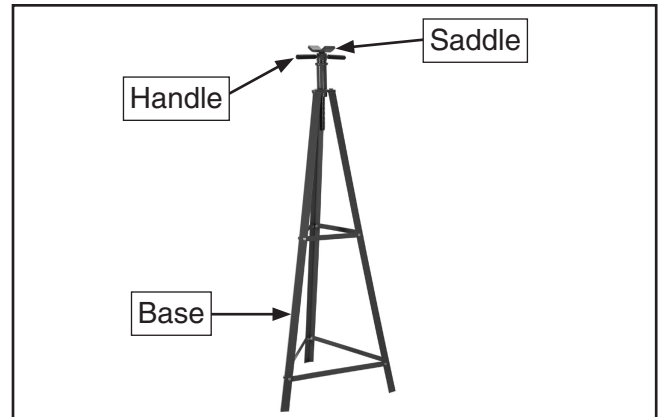

Figure 1. Model H8365.
2. Extend the post by holding the saddle and rotating the handle (**Figure 1**). Make sure that the saddle is centered under the load point. Do not over-extend the load or the load may shift and swing.